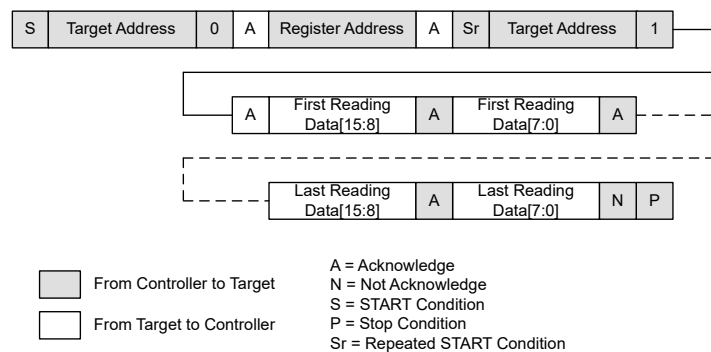
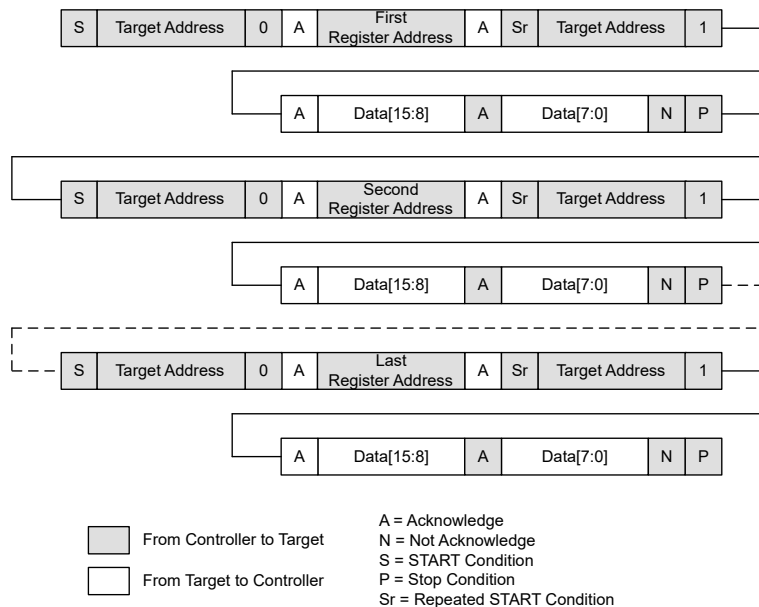

Figure 7-24. Read Same Register Multiple Times
Figure 7-25. Read Multiple Registers Using the Reading Single Word From Any Register Method
7.5.1.5.4 Reading Multiple Registers (Figure 7-24 and Figure 7-25)
Figure 7-24 and Figure 7-25 illustrate the process for this protocol. Steps for this protocol are: